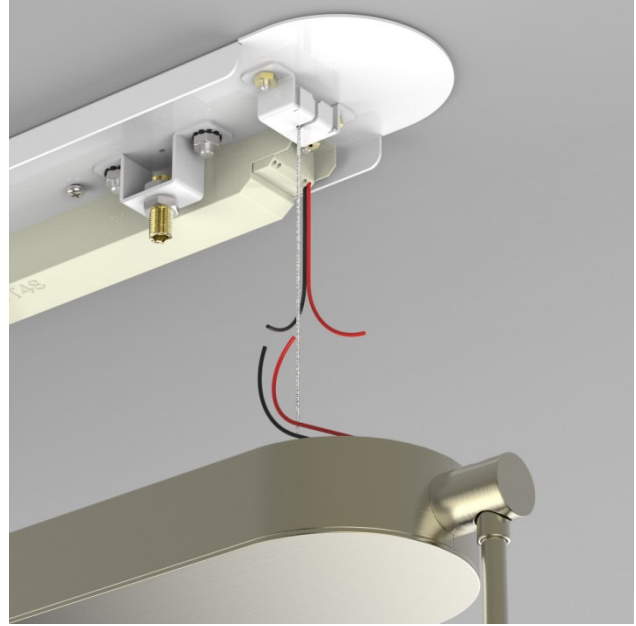

Figure 8
- Make LED wire connections. (Figure 8)